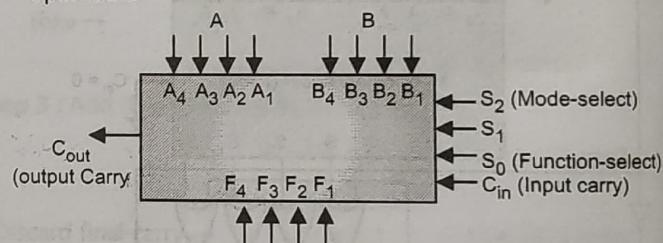

Fig. 2.56 : Block diagram of a 4-bit ALU
- An Arithmetic Logic Unit (ALU) is a multioperational combinational-logic digital function. It can perform a set of basic arithmetic and logical operations. The ALU has number of selection lines to select a particular operation in the unit. The selection lines are decoded within the ALU so that k selection variables can specify up to 2^k distinct operations. The Fig. 2.56 shows the 4-bit ALU. The four data inputs from A are combined with the four inputs from B to generate an operation at the F outputs.
- The Fig. 2.56 shows a 4-bit ALU. The design of a typical ALU will be carried out in three stages. First, the design of the arithmetic section will be designed. Second, the design of the logic section will be considered. Finally, the arithmetic section will be modified so that it can perform both arithmetic and logic operations.